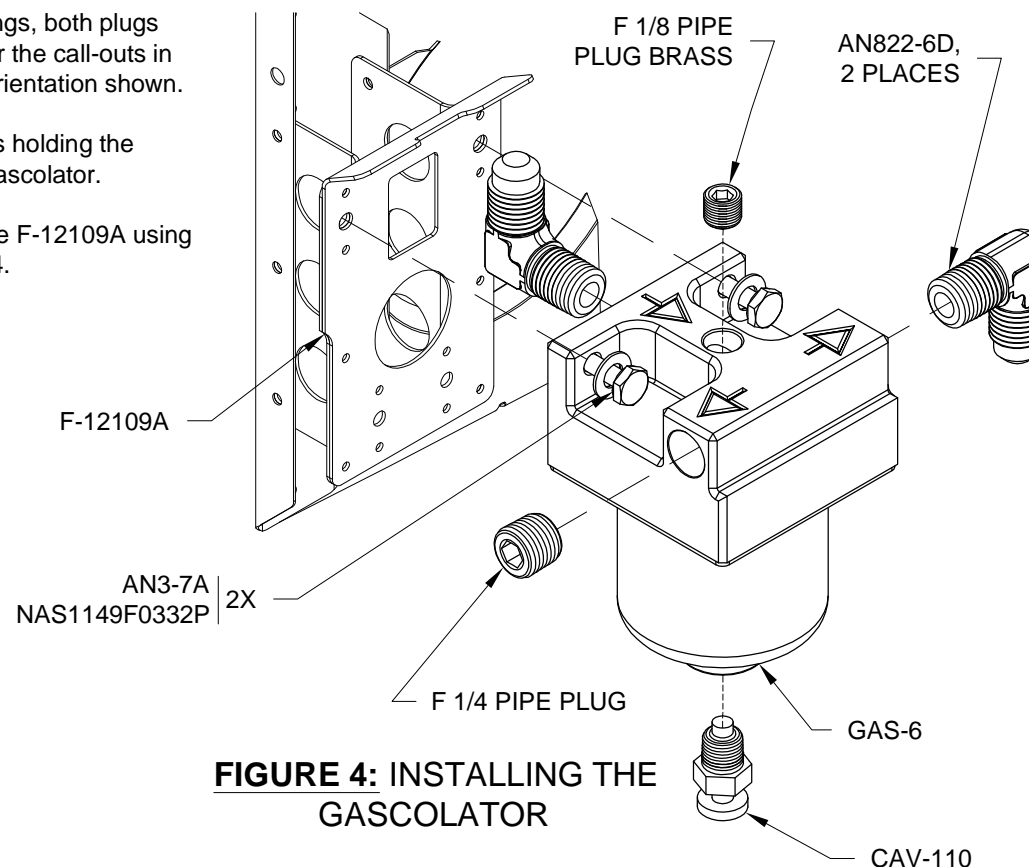

FIGURE 4: INSTALLING THE GASCOLATOR
Step 6: Install both elbow fluid fittings, both plugs and the CAV-110 to the GAS-6 per the call-outs in Figure 4. Clock the fittings in the orientation shown.
Step 8: Attach the gascolator to the F-12109A using the hardware called out in Figure 4.